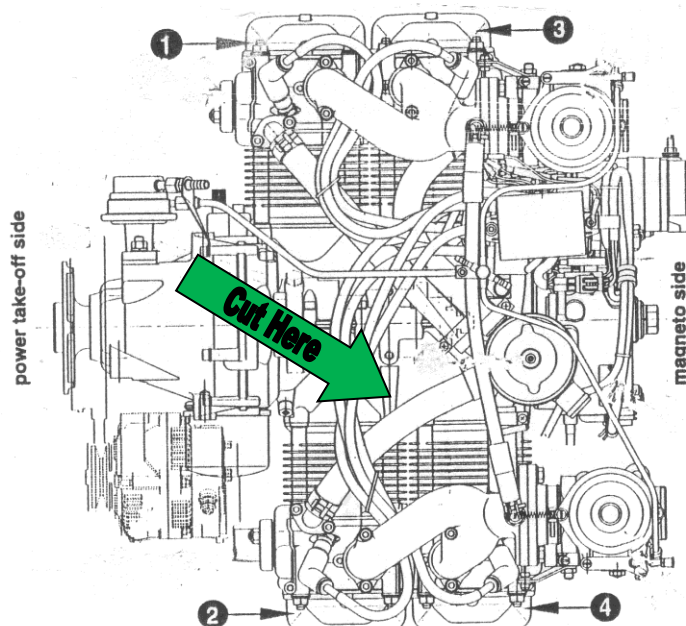

Fig 2.
- Cut the hose between the cylinder head of No 2 cylinder and the expansion tank and fit the smaller of the two 'T' pieces using the hose clamps supplied (Fig 2. below is for cylinder head identification). Angle the small outlet at approximately 45° so that the small feed hose to the heater block will curve smoothly (Photo 6 above).